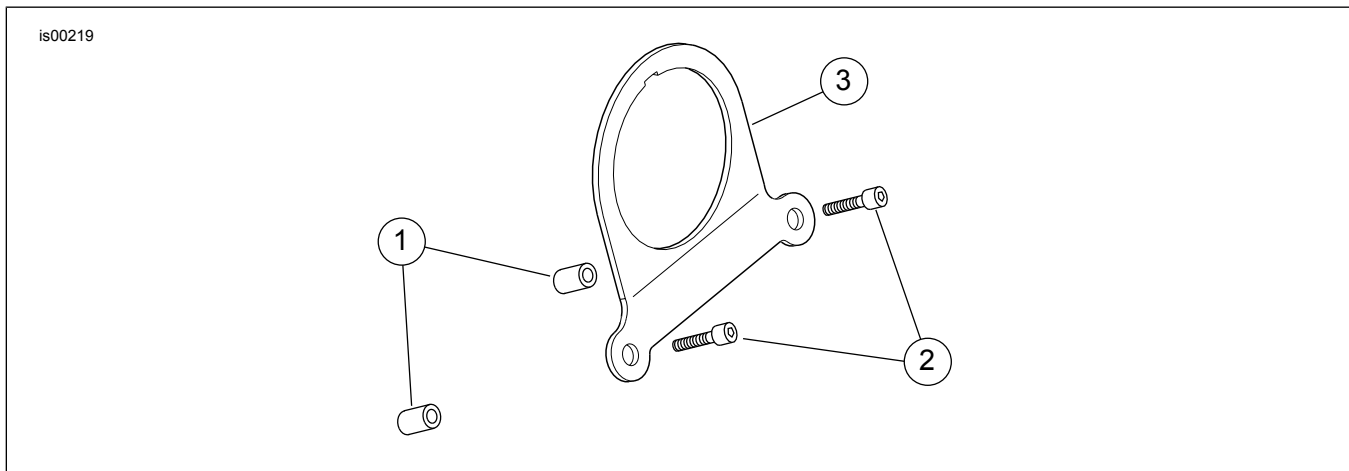

Figure 1. Service Parts for Sportster Mini-Tach Bracket Kit
See Figure 1 and Table 4.
3. See Figure 1. Slide the tach into the tach mount (3) from the front aligning the notch in the tach with the notch in the isolation gasket.
1. See Figure 1. Remove front two handlebar clamp screws.
2. Place spacers (1) into the empty clamp screw counterbores.
3. Loosely secure tach mount (3) and tach assembly to handlebar clamp with the capscrews (2).